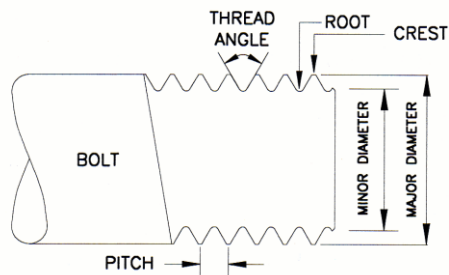

Figure 2 - Names of parts of a vee thread.
4. The terms used to describe the parts of a vee thread are shown in Figure 2.